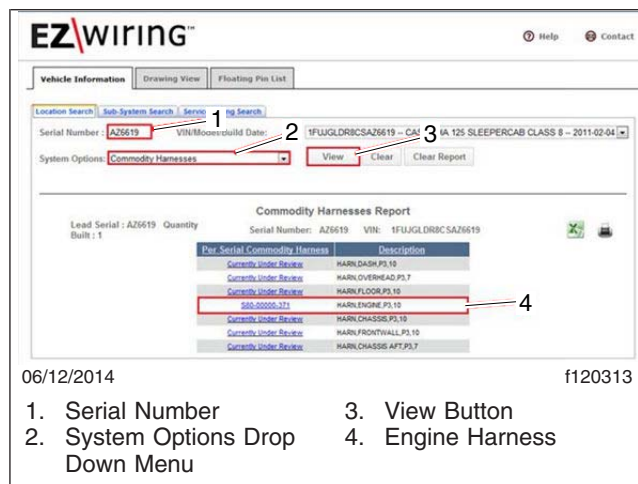

Fig. 3, EZWiring Vehicle Information Screen
3. Select "Commodity Harnesses" under the **System Options** dropdown menu, then press "View." See Fig. 3.